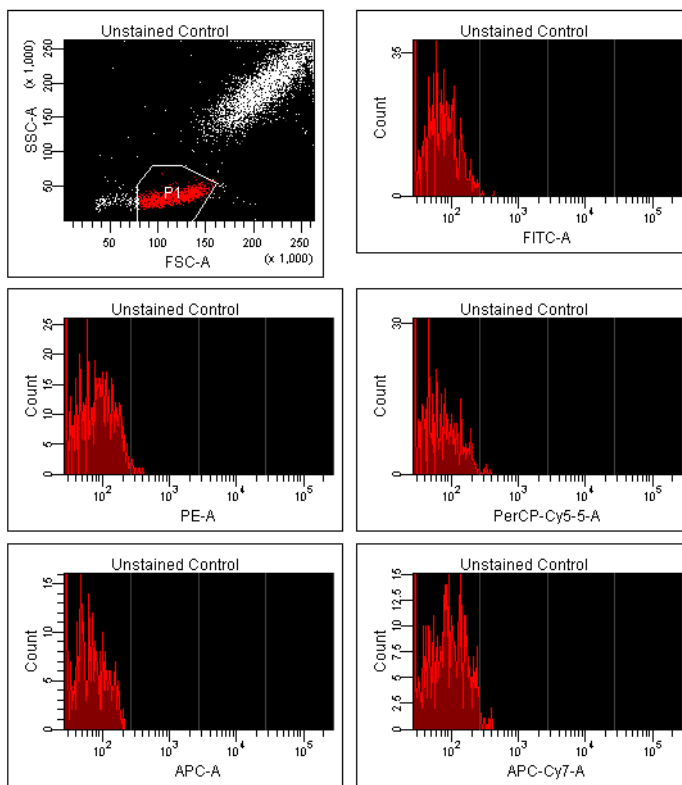

Figure 4-9 Unstained Control Tube after PMT adjustment
- 8 Optimize the voltages to place the negative population for each fluorescent parameter within the first log decade (Figure 4-9).